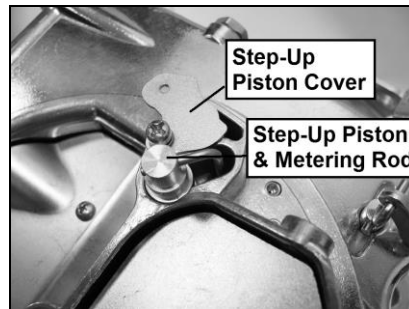

Figure 20
2. Twist the step-up piston cover plates to the side (Fig. 20).